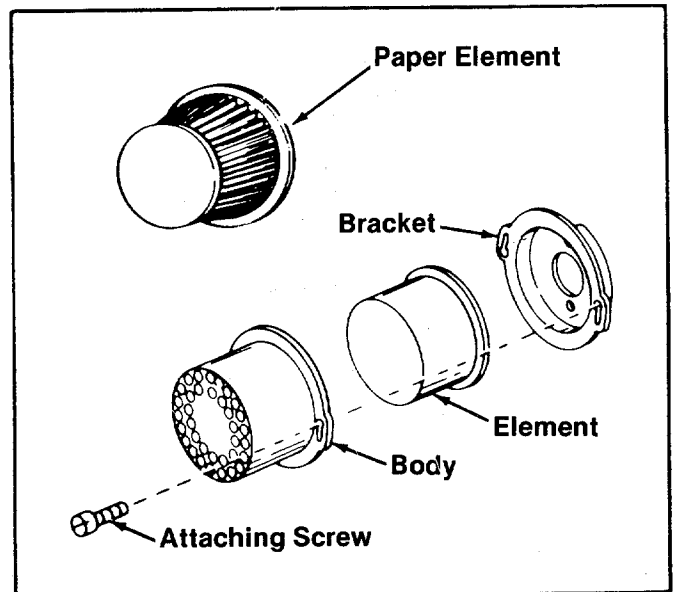

FIGURE 10.
4. Air Cleaner. (See figure 10.)